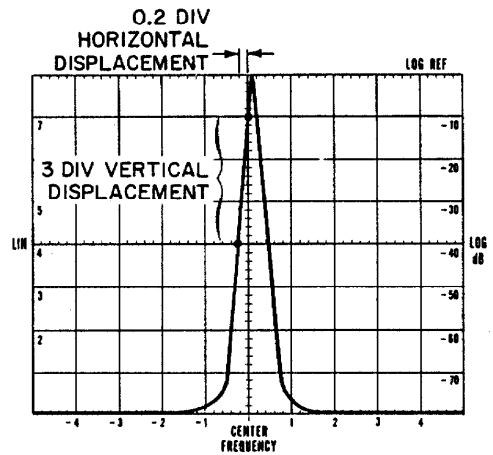

Figure 4-10. Demodulation Sensitivity Measurement
4. Refer to Figure 4-10. Tune FINE TUNE so that the upward slope of the display intersects the CENTER FREQUENCY graticule line one division from the top.